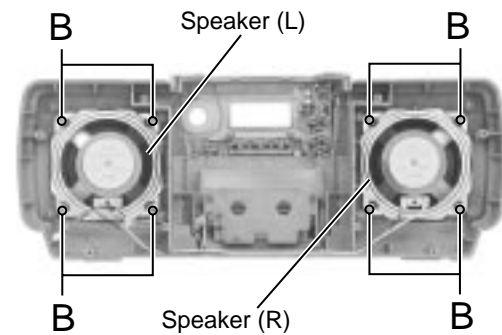

Fig.4
### ■ Removing the speaker (L) and (R) (See Fig.4)